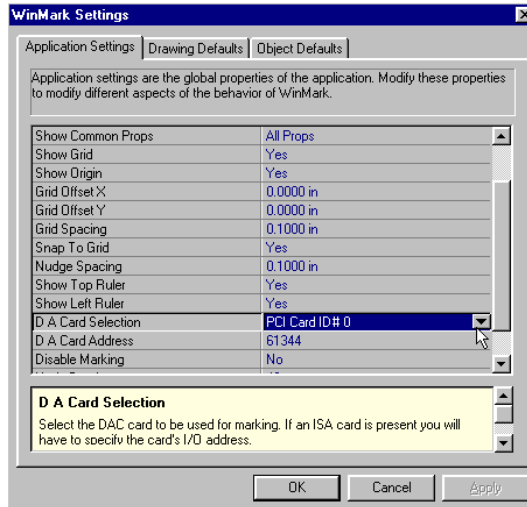

Figure 4 Application Settings tab
- 4 When WinMark Pro opens, click **Tools** on the *Menu* bar and then click General Settings.... On the *Application Settings* tab, locate the DA Card Selection property and verify that the PCI card is properly identified. See Figure 4. If an older ISA-bus FLCC is also installed in your computer, you may need to select the PCI card from the drop-down list.